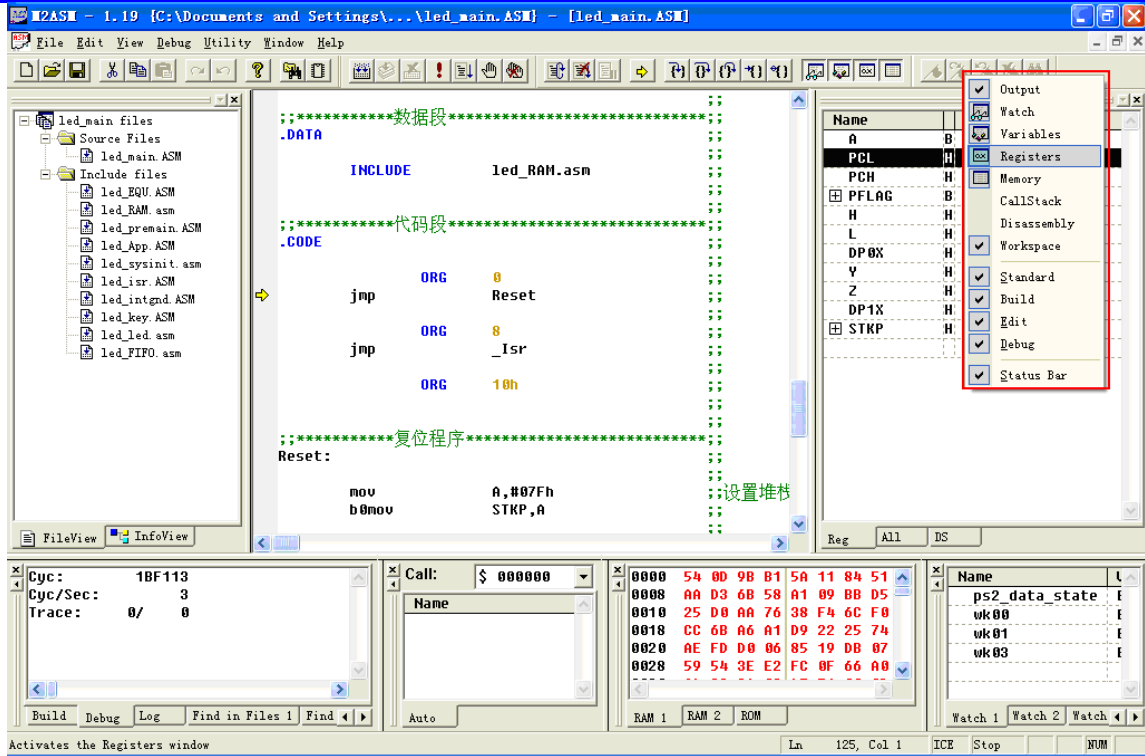

Figure 2-39 Right-click the blank of toolbar to choose to display or not display the window
- Click right key on the blank of toolbar or status bar, you can select whether the corresponding window will be displayed or not by the selection of Output, Watch, Variables, Registers, Memory, Workspace and so on in the pop-up menu, as shown in Figure 2-39: